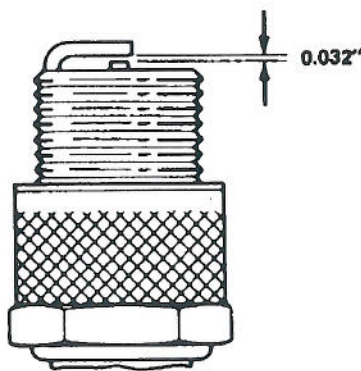

Figure 14
- 2. Set air gap between electrodes at 0.032 of an inch (Fig. 14). Install the correctly gapped spark plug with gasket and tighten plug to 10 ft-lb. If torque wrench is not used, tighten plug firmly.